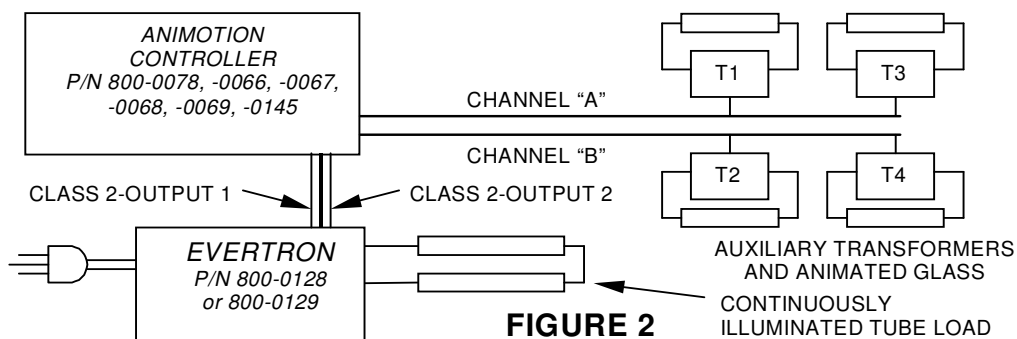

FIGURE 2
- The power supply output leads (GTO 10) are to be connected as shown in Figure 2.